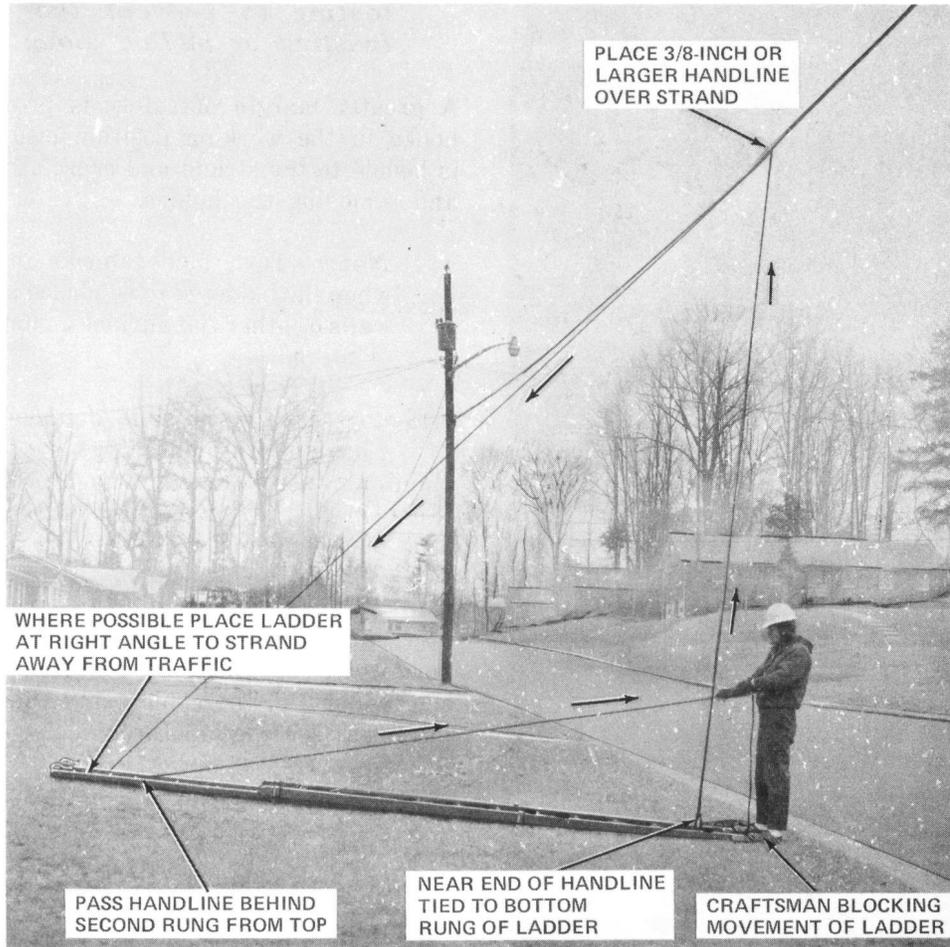

Fig. 39—Preparing to Raise Extension Ladder
9.17 The one-person method of raising an extension ladder, 28 feet or less, to a suspension strand is illustrated in Fig. 39 through 43.